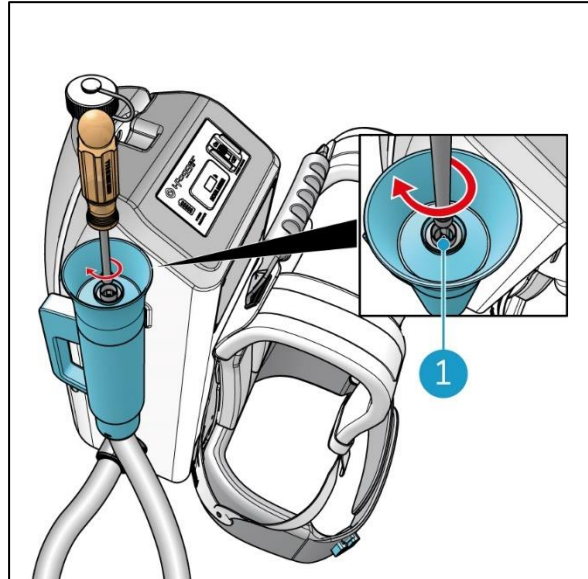

Figure 10
1. Turn the spray nozzle clockwise (Figure 10, pos 1) to attach it to the spray gun.